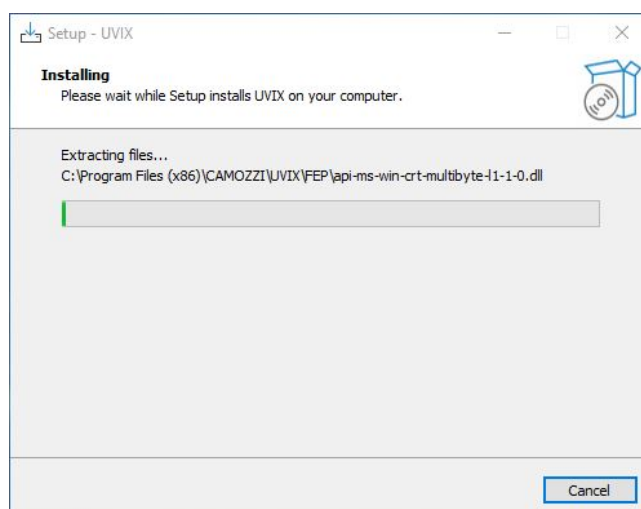

Figure 4.3: Installation
- Wait for the installation to complete, as shown in Figure 4.3.